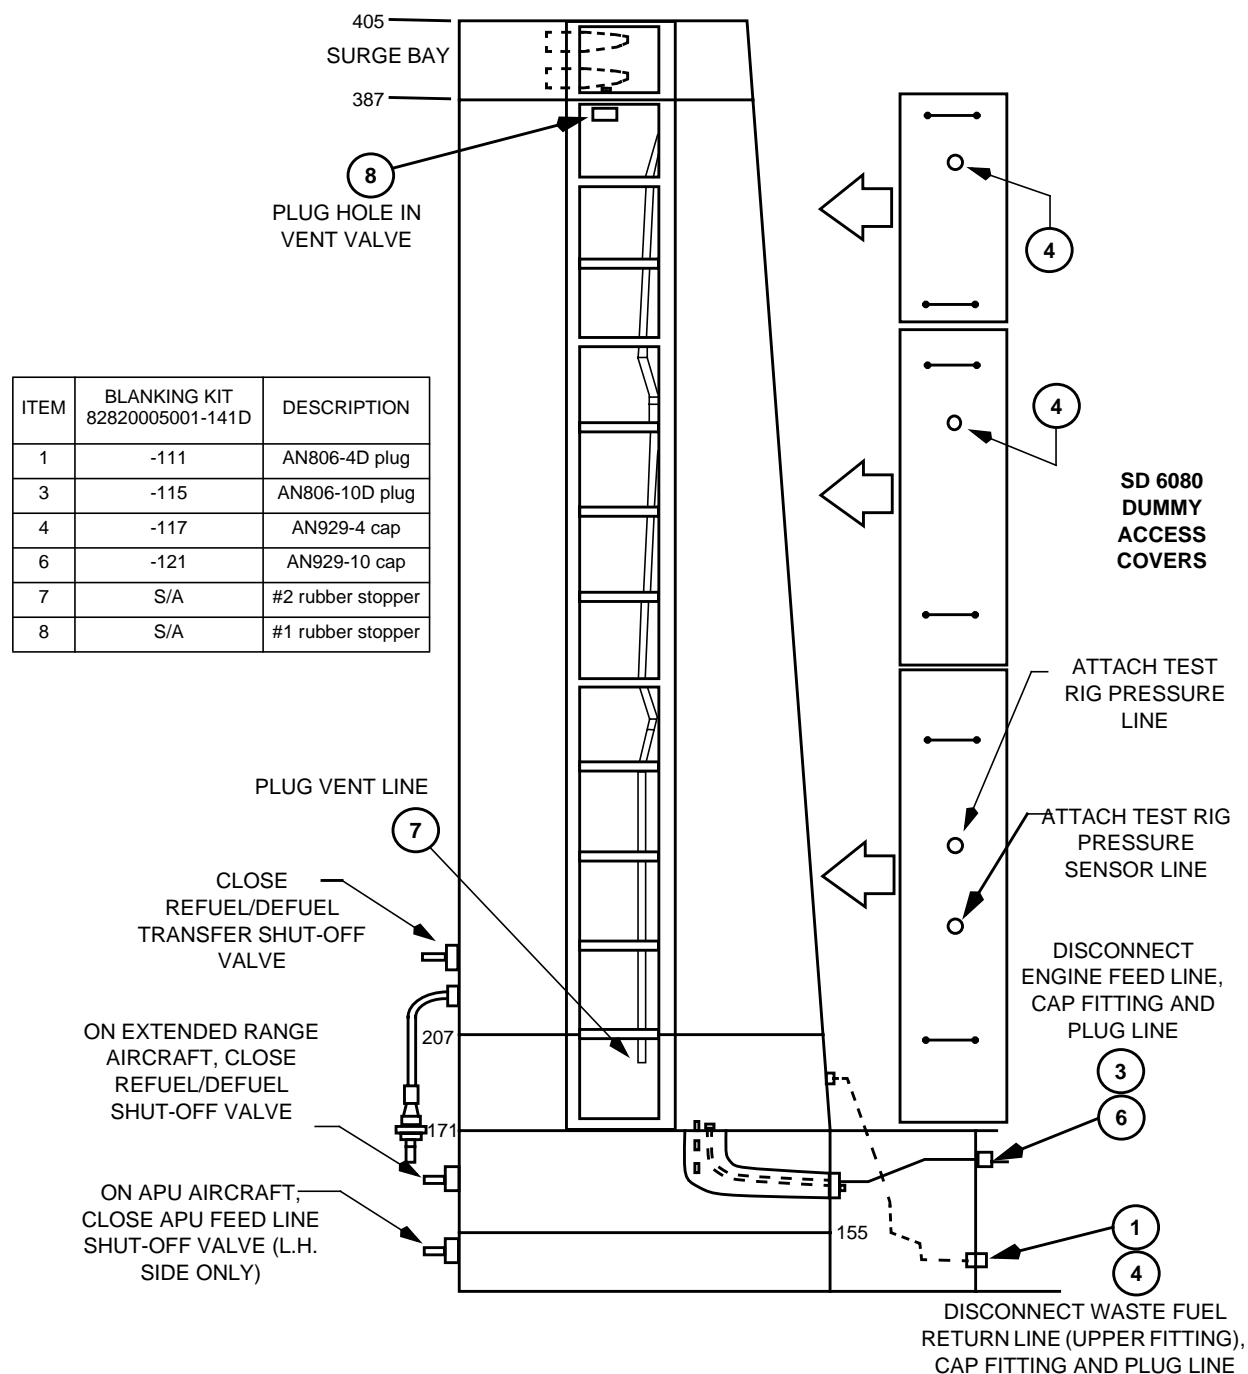
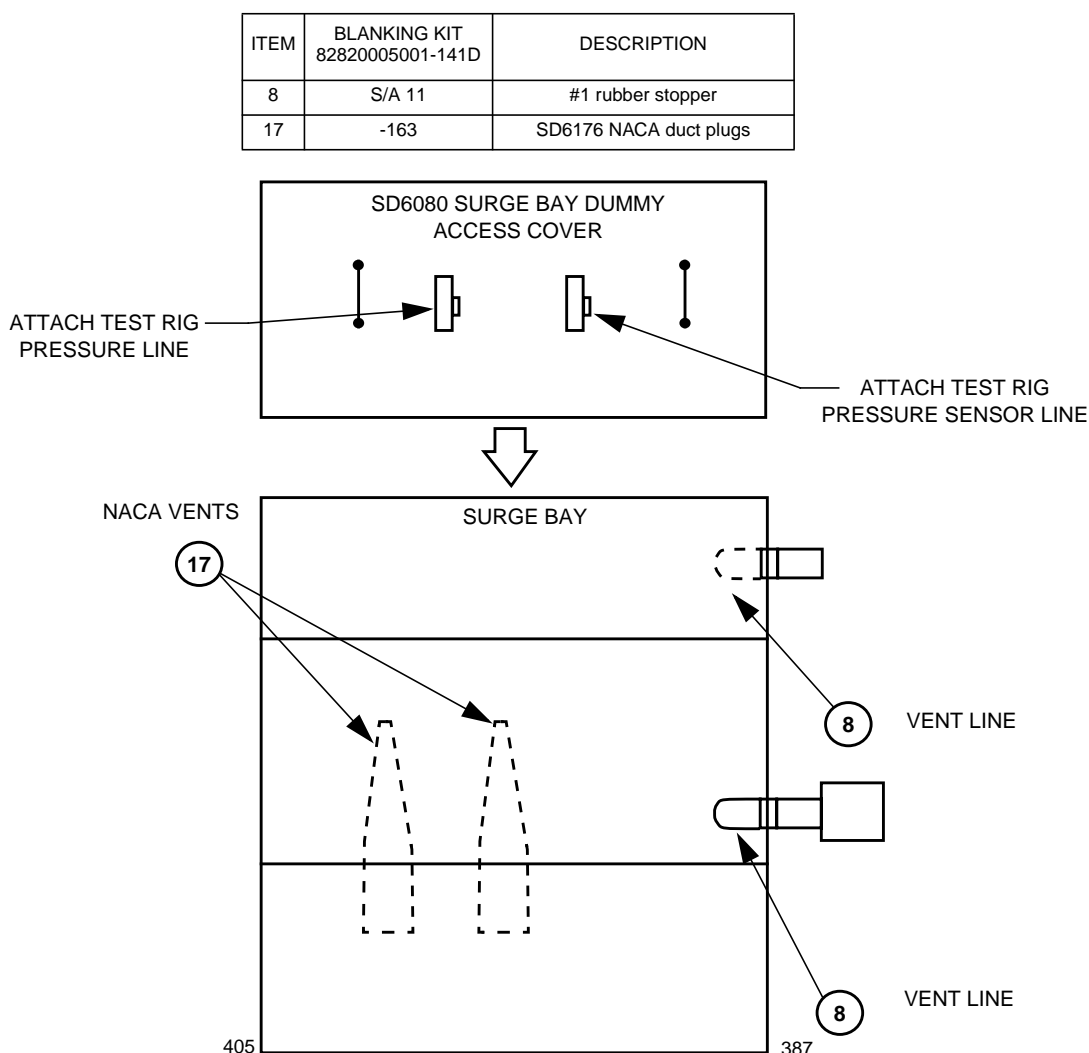
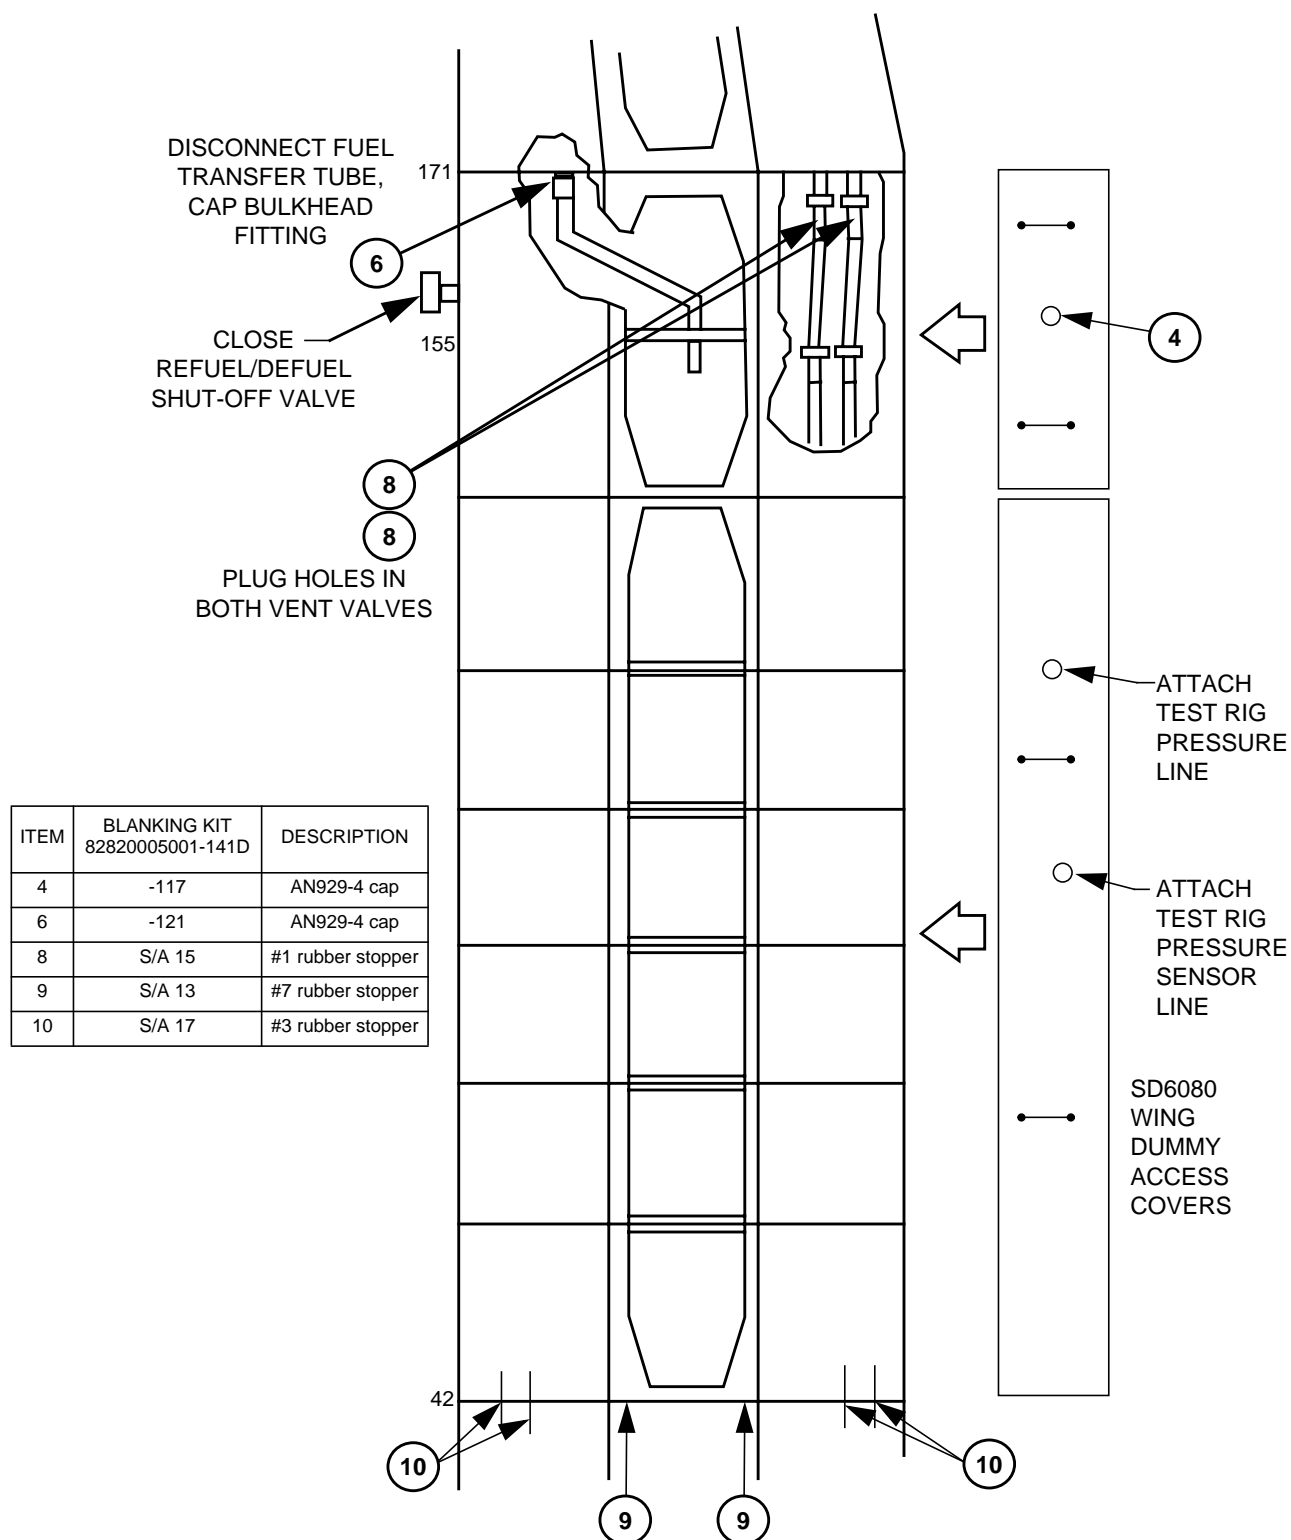

Figure 2 - First Pressure Test of Main Fuel Tank
Figure 4 - First Pressure Test of Surge Bay
Figure 5 - First Pressure Test of Auxiliary Fuel Tank
- 5.2.1 Perform pressure testing of the main fuel tank as follows (see Figure 2):
5.2.2 Perform pressure testing of the surge bay as follows (see Figure 4):
5.2.3 Perform pressure testing of the auxiliary fuel tank as follows (see Figure 5):
5.3.1 Pressure test the main tank, surge bay or auxiliary tank as follows (see Figure 2, Figure 4 or Figure 5 respectively):